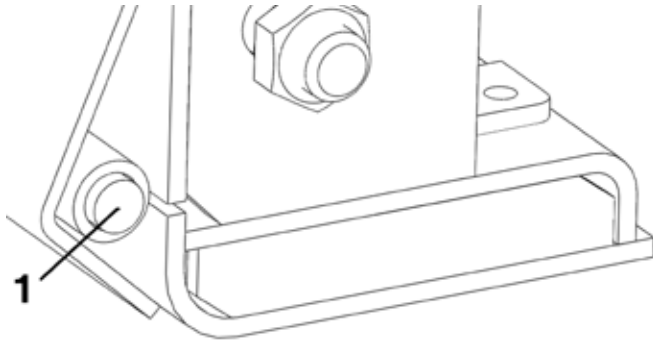

Figure 5-6. Extension Wear Plate
7. Lower screed to ground and pull front pivot pin out (**Figure 5-6**).